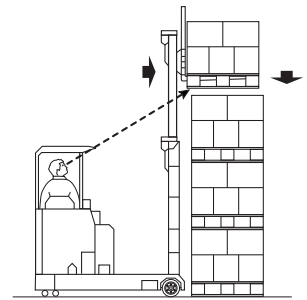

Figure 16
- (d) When the load is squarely over the stack, level the load and lower it onto the stack gently and smoothly (Figure 16);